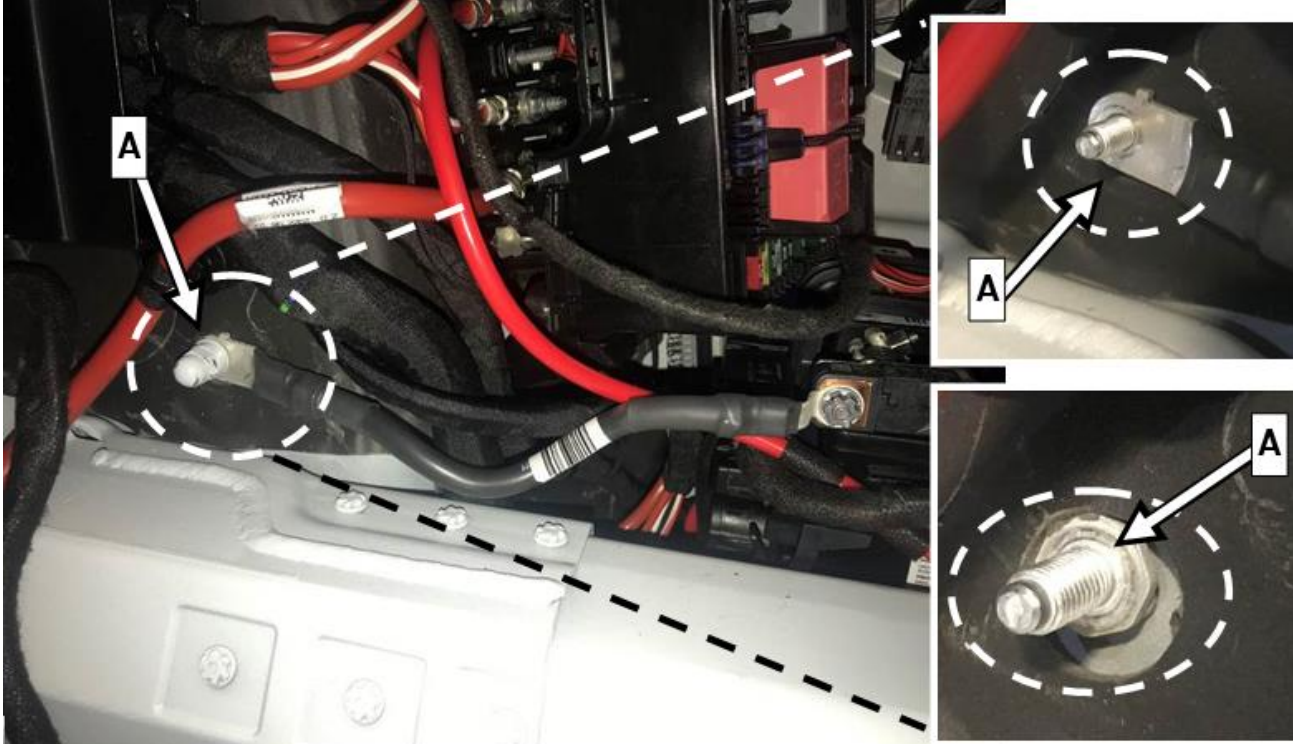

Figure 2
3. Remove ground line (**A, Figure 2**) of battery sensor (B95/3) of auxiliary battery from body.